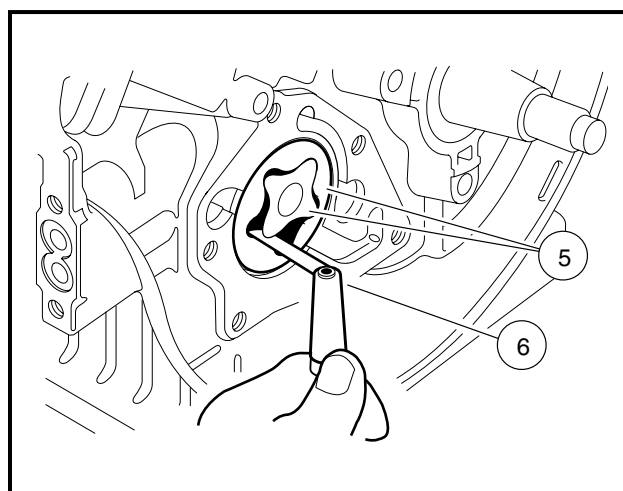

Figure 18-58 Check Clearance Between Rotors
1. Check the clearance between the inner and outer rotors (5) with a feeler gauge (6). Measure the clearance between the high point of the inner rotor and the high point of the outer rotor (**Figure 18-58, Page 18-29**).